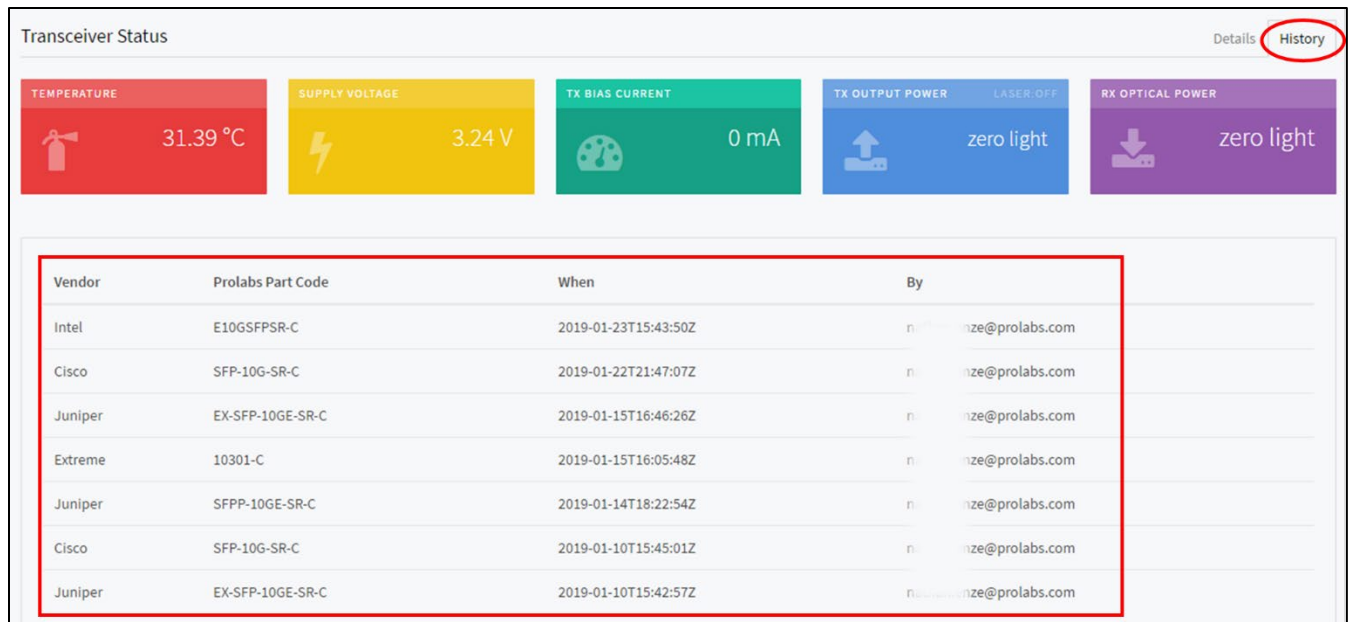

Figure 8 – Transceiver History
- The “History” tab in the application interface displays the ten most recent operations on a specific transceiver by ProTune™. (See Figure 8). Please note that only coding operations used by the ProTune™ system will be listed.